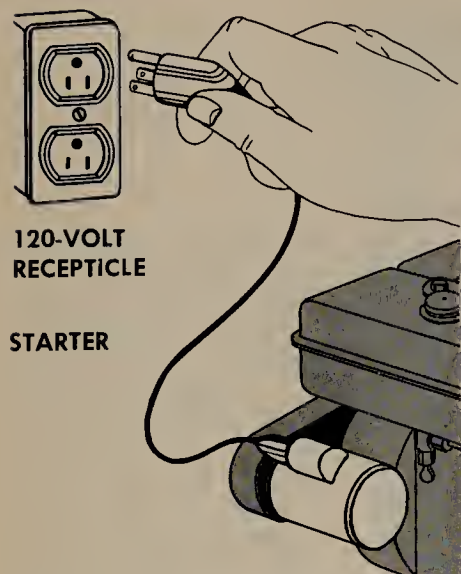
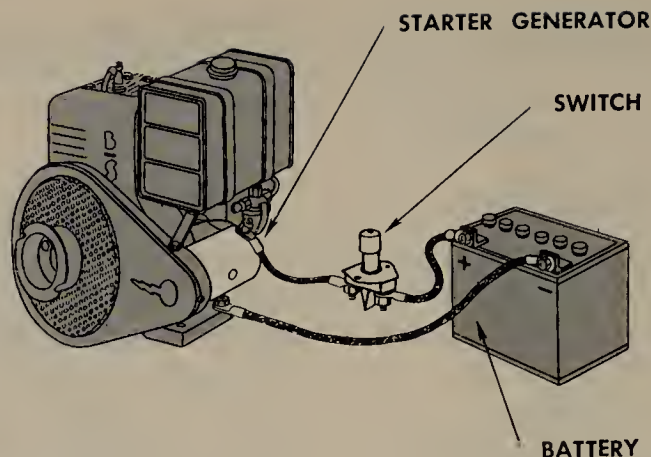

FIGURE 9.8 Electric starter which uses house current to operate.
FIGURE 9.9 Battery starter system. This system includes an electric starter which is also a generator to recharge the battery.
9.4 Electric Starters. Electric starters for small engines are of two types. One is operated by connecting the extension cord from the starter motor to the 120-volt home wiring system, as shown in Fig. 9.8. The other type uses a lead-acid storage battery of the kind used in automobiles (Fig. 9.9).
There is one caution to be observed in using the 120-volt starter. Connections should always be made at the 120-volt outlet receptacle, as shown in Fig. 9.8, and never at the starter. Reason? If you make or break the connection at the starter, the spark could ignite gasoline vapor from the carburetor and you could have a fire. Also, you should always make sure the extension cord is in good condition without frayed insulation, and that the cord is of the type having the third, or ground, lead. Remember that 120 volts is nothing to fool around with!